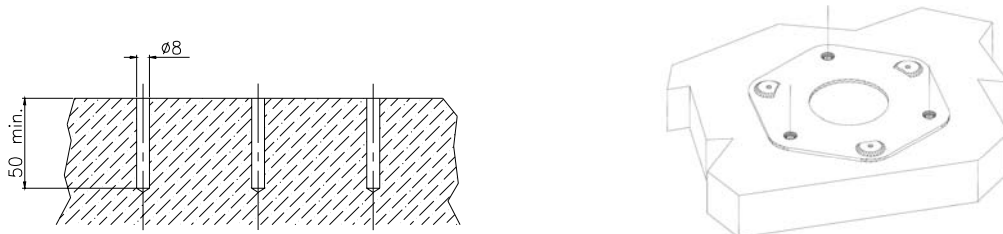

Fig.1
- Drill holes in the floor with an 8 mm tip, using the FMC-CBL plate (fig. 1) as drilling template.